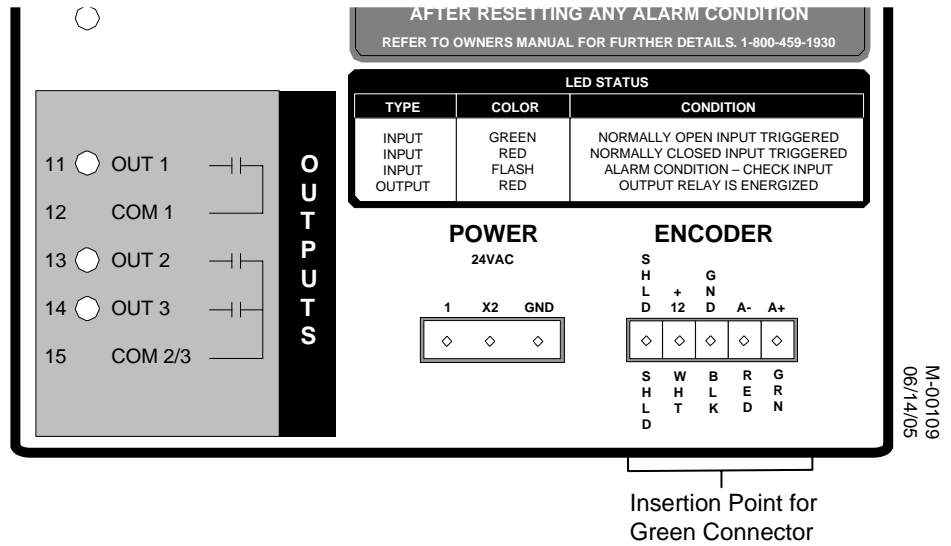

Figure 4-8: Insertion Point for Green Connector
2. Insert the green connector into the DYNALOGIX II. See Figure 4-8.